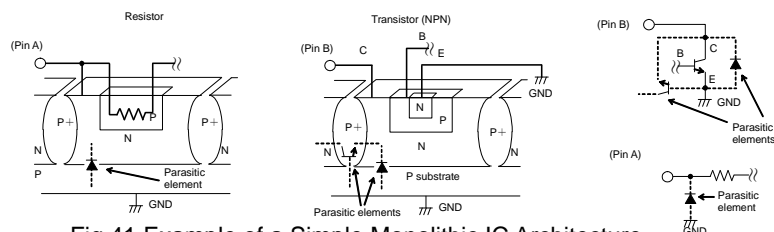

Fig.41 Example of a Simple Monolithic IC Architecture
- 8) This monolithic IC contains P+ isolation and P substrate layers between adjacent elements in order to keep them isolated. P/N junctions are formed at the intersection of these P layers with the N layers of other elements to create a variety of parasitic elements. For example, when the resistors and transistors are connected to the pins as shown in Fig. 41, a parasitic diode or a transistor operates by inverting the pin voltage and GND voltage.